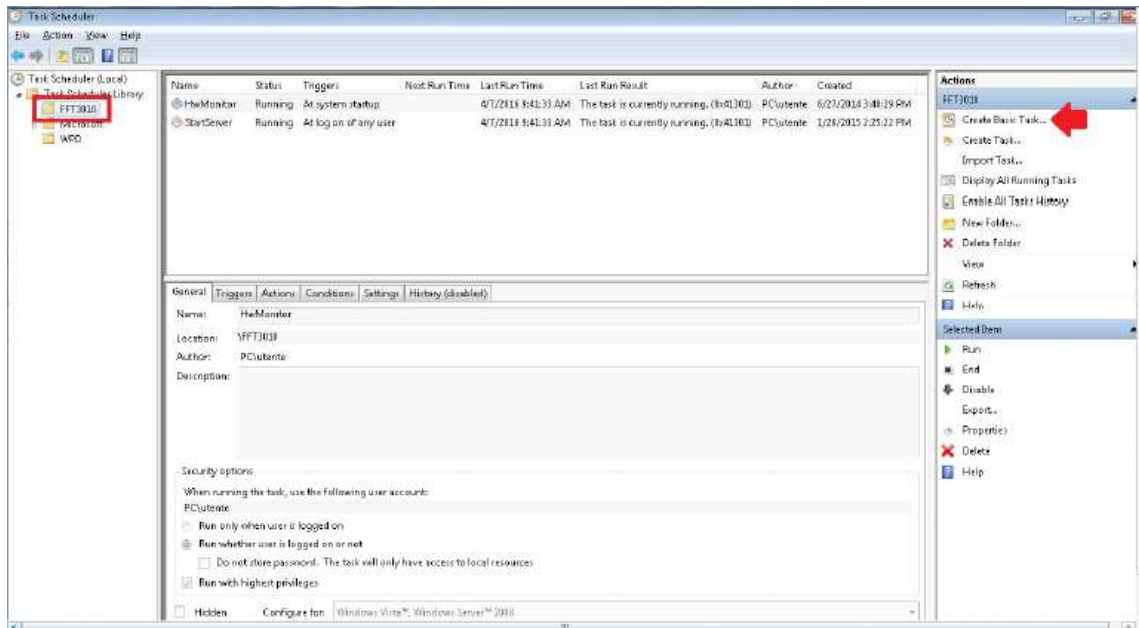

Fig. C.33: Task Scheduler window
STEP 2 – In *Task Scheduler* window please create a new task to start client software selecting *FFT3110 (FFT 3100)* folder in the left panel and *Create Basic Task...* in the right panel (Fig. C.33).